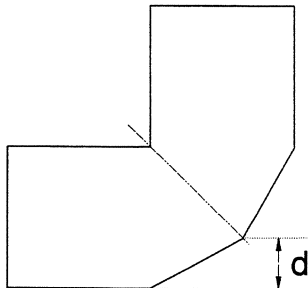

Fig. 4.2 The optimizable parameter d .
- 1 Define the optimizable parameter d as shown in Fig. 4.2.
For the bend2 tutorial example, we have only one parameter to define, namely d as depicted in Fig. 4.2. We need to create a new project to represent an incremental change in the parameter d . Such a project has already been set up and is provided as part of this example in the directory "bend21.pjt". The nominal project and the incremental change project represent two distinct values of the parameter d .
Parameter Name is an arbitrary ASCII string of no more than 32 characters. We choose the name "d" to identify the parameter depicted in Fig. 4.2.